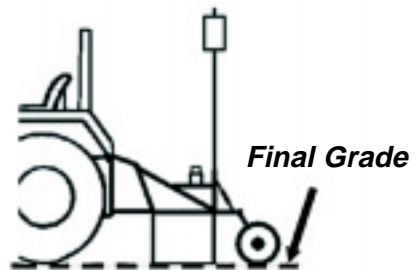

Figure 4.3
- Lower the blade using the override so that the cutting edge is resting at final grade as shown in Figure 4.3.